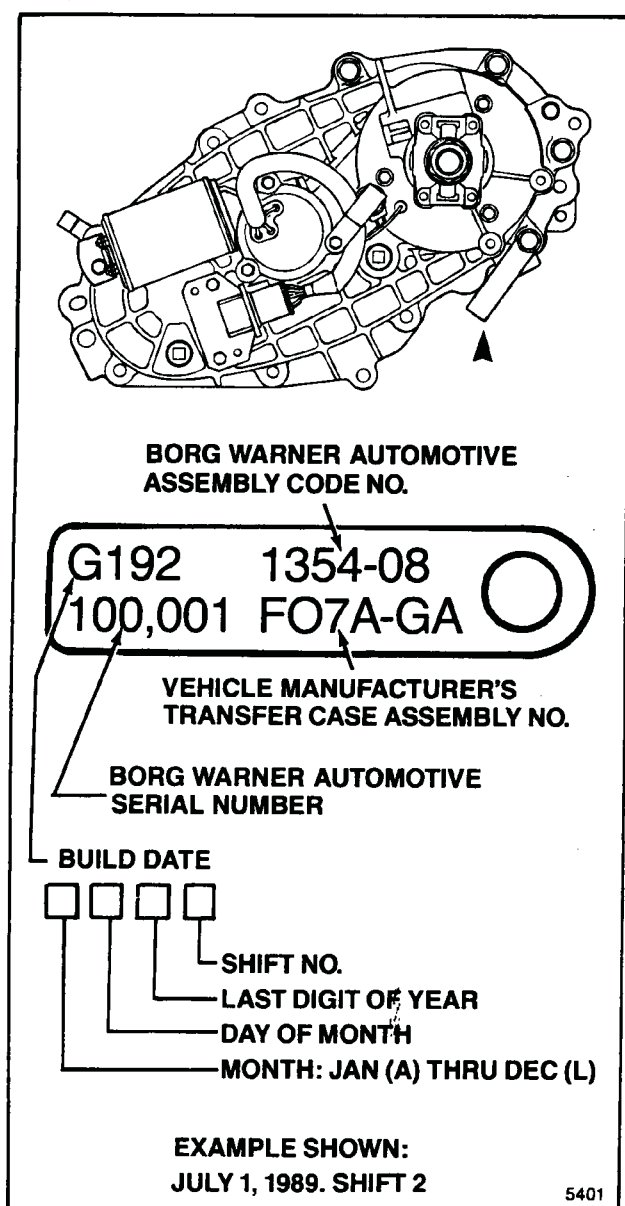

Figure 1-1. Identification Tag
**1-12. IDENTIFICATION.** The identification tag is installed on the transfer case at the location shown in figure 1-1, looking at the rear of the case. Figure 1-1 also illustrates the information to be found on the tag, some of which may be necessary for specifying correct replacement parts.